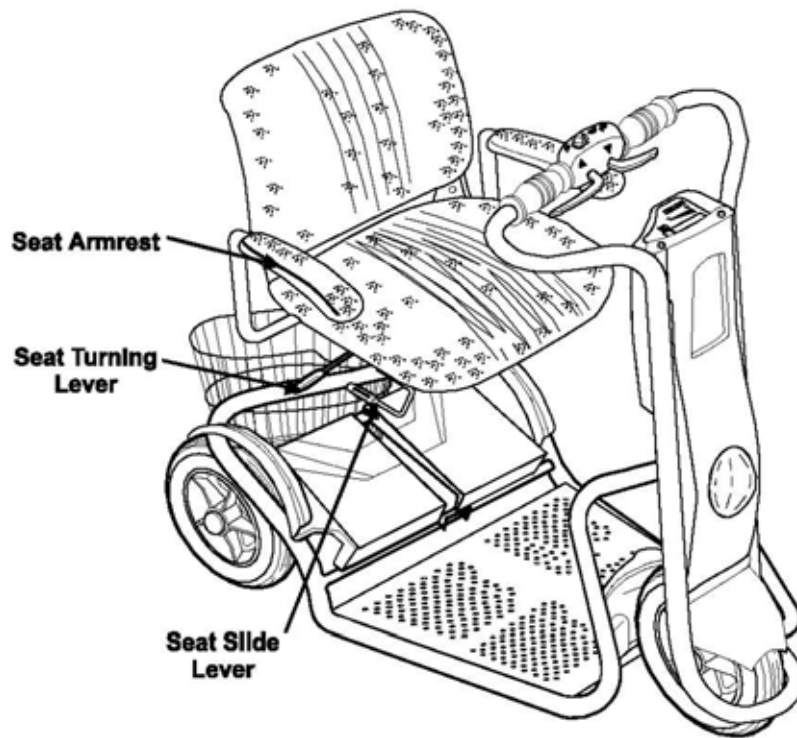

Figure 9.
- a. For comfort entering into the **SUPERLIGHT (See Figure 9)**.
- d. Use the **Seat Slider Lever** to adjust the **Seat** forward/Backward (**See Fig. 9**).